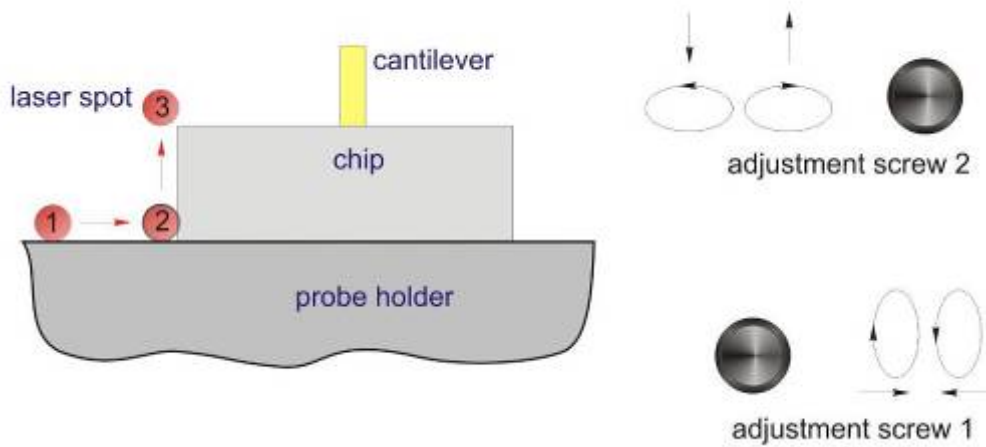

Fig. 2-91
- *The undistorted (pristine) elliptical laser image is seen initially on the paper screen, i.e. the laser beam passes just near the probe holder edge, for example, to the left of the chip (as shown schematically in Fig. 2-91);*
- *Next, start turning adjustment screw 2 clockwise to move the spot along the chip side edge. Stop turning when the laser image distortion vanishes. This corresponds to the spot location 3 near the chip front left corner (location 3 in Fig. 2-91).*